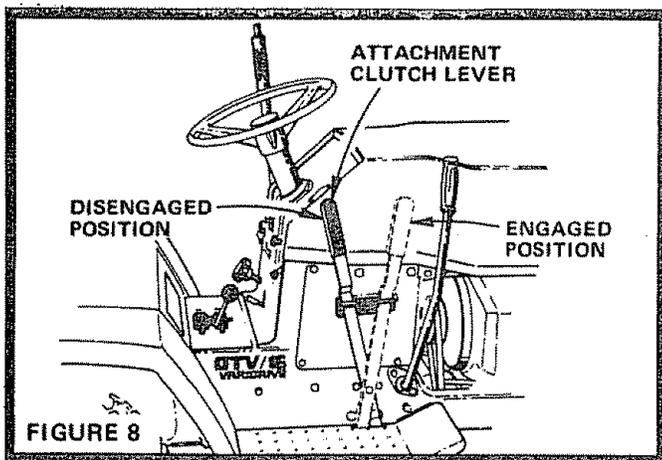
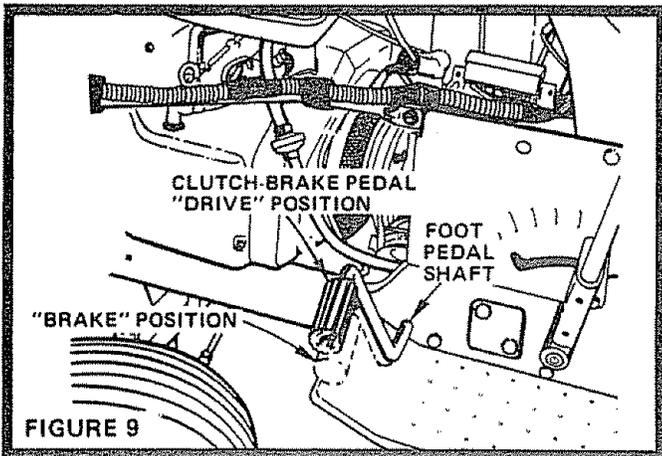

FIGURE 8
FIGURE 9
THIS TRACTOR IS EQUIPPED WITH INTERLOCK SWITCHES TO PREVENT STARTING OF THE TRACTOR ENGINE WHILE THE ATTACHMENT CLUTCH LEVER IS IN THE ENGAGED POSITION (FIG. 8) AND THE CLUTCH BRAKE PEDAL IS IN DRIVE POSITION (FIG. 9).
1. Place Attachment Clutch Lever in "DISENGAGED" position (Fig. 8).
2. Push Clutch-Brake Pedal fully into brake position (Fig. 9).
4. Place Gear Shift Control Lever in "NEUTRAL", start position (Fig. 8).
2. Push Clutch-Brake Pedal down firmly to disengage Parking Brake and hold Clutch-Brake Pedal in Brake position (Fig. 9).